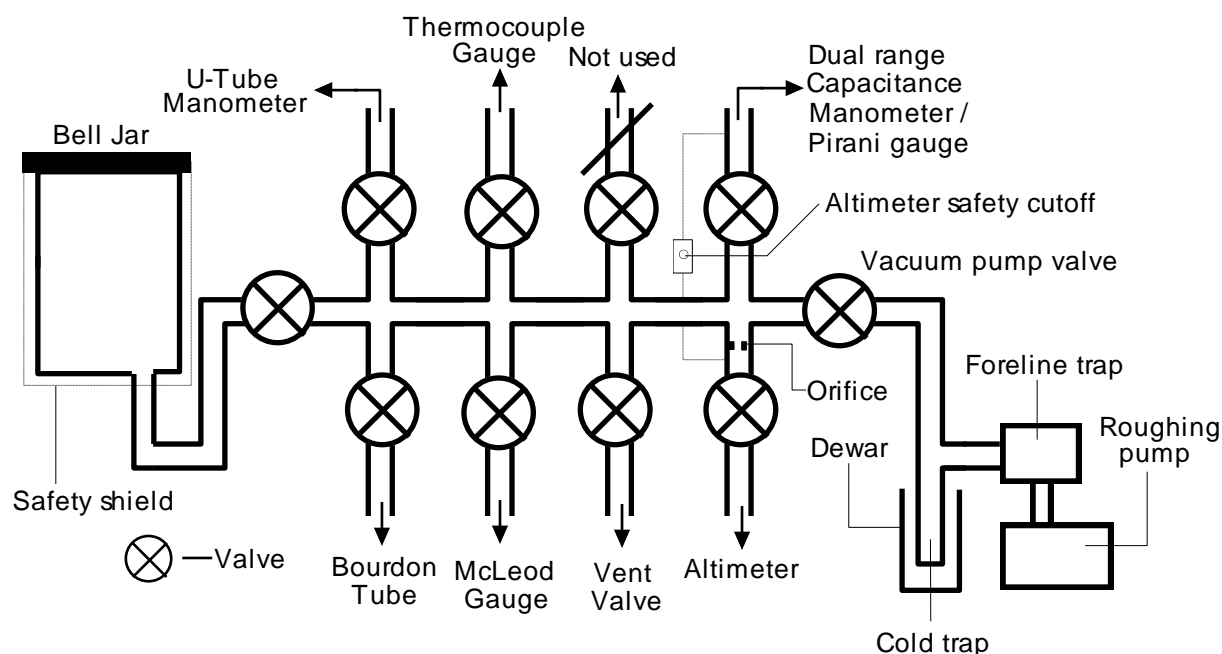

Figure 1. Schematic of Vacuum Manifold System
1. Examine the vacuum manifold system in front of you and compare it to the schematic shown in Figure 1. Please ensure that you understand the connections and how to pump out the manifold and control which gauges are connected to it. If you are at all unsure, please go over the system with one of the laboratory staff.